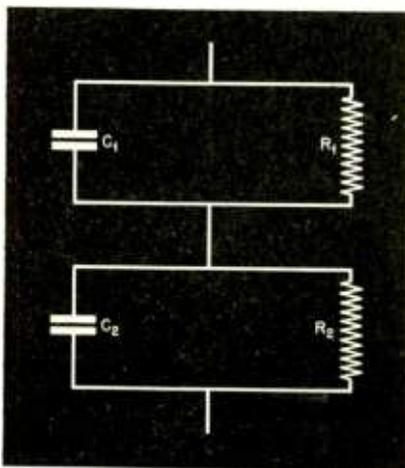

Fig. 1. Equivalent circuit of an electrolytic condenser
Frequency characteristics of the equivalent circuit (Fig. 1) for different values of R_2 . The solid line in (A) above, and (B) below, shows the resulting curve when the resistivity of the electrolyte is decreased with respect to that represented by the dotted line
An electrolytic condenser can, like other electrical devices, be represented by a number of equivalent circuits. Of these the simplest and one which admits of the most straightforward physical interpretation is shown in Fig. 1. This R-C network is constituted as follows: